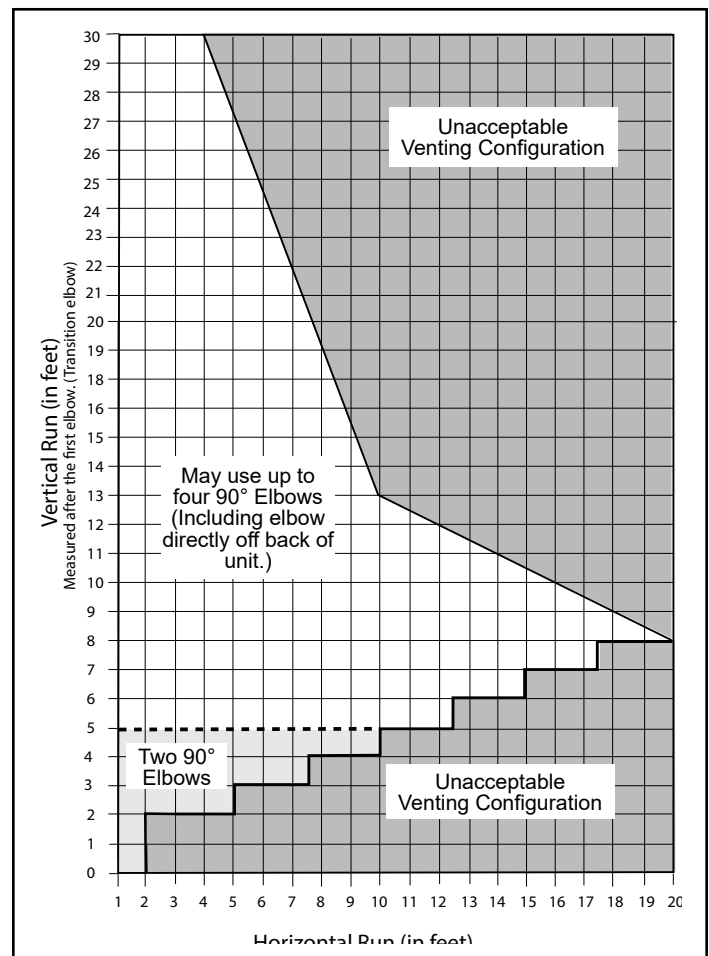

Figure 2.8 - Horizontal vent termination window.
Except for straight-through the wall vent installations. The vent must rise vertically a minimum of 24" (610 mm) after the first elbow directly off the back of the unit, before the next elbow. The horizontal run may extend up to 20' (6 m) and include a vertical rise of up to 40' (12 m), Figure 2.8.
- Approved vent systems must terminate above and including the heavy line, Figure 2.8.